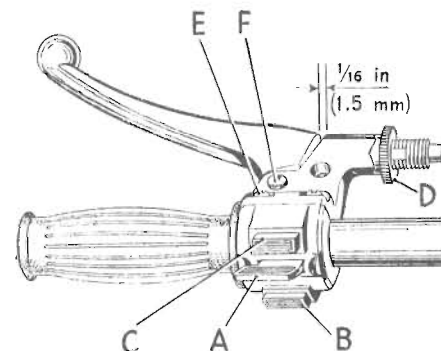
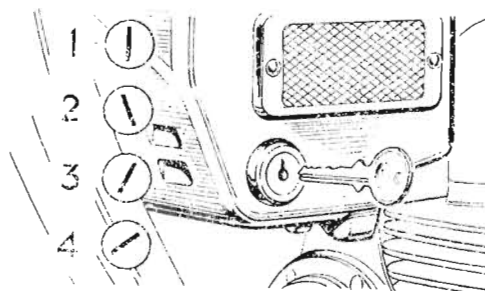

FIGURE 3.
FIGURE 4.
**CLUTCH:**—The lever is mounted on the left handlebar and its position can be adjusted after slackening off the screws (E) FIG. 3. The looseness of the lever is adjusted by rotation of screw (F) FIG. 3, after slackening its locknut. Grip the lever to free the clutch (i.e., disengage the drive between the motor and the rear wheel). Finger adjustment for the clutch cable is provided at the adaptor (D) FIG. 3, on the lever. A greasing point is provided in the cable at (B) FIG. 23. Provision is made on the lever body for fitting a Motoplas rear view mirror.
**MASTER ELECTRICAL SWITCH (except Moto-cross models):**—This is incorporated in the electrical box beneath the tank, on the left side of the machine (FIG. 4). The key is detachable in two of the four positions, but cannot be withdrawn from the remaining two, viz:
- (1) **OFF.** All equipment is switched off and the key can be removed. When leaving the machine return the key to this position and remove. Keep in a safe place.
- (2) **PILOT.** The pilot bulb in the headlamp is illuminated (and remains so, even when the main lighting is in use) together with the rear light. The key can be removed.
- (3) **IGNITION.** With the key turned to this position the motor can be started and run. The key is retained.
- (4) **IGNITION AND LIGHTS.** All electrical equipment is available for use with the switch in this position, and the key is retained.
**HORN, HEADLIGHT DIP SWITCH, HEADLIGHT FLASHER SWITCH:—**These are combined in a triple switch unit on the left handlebar as part of the clutch lever body. The unit (and the control lever) can be adjusted for position after slackening the screws (E). The horn push button is at (B), and the headlight flasher switch at (C) FIG. 3.
**HEADLIGHT SWITCH:—**The headlight main beam is illuminated when the rotary switch on the lamp body is turned. A separate switch (A) FIG. 3, on the left handlebar controls the dipping of the beam and the master electrical switch (FIG. 4) controls the pilot light.
**DIRECTION INDICATOR SWITCH, IGNITION CUT-OUT:—**These are combined in a triple switch unit mounted on the right handlebar as part of the front brake lever body. The unit (and the control lever) can be adjusted for position after slackening the screws (B). The direction indicator switch is at (G) and the ignition cut-out at (F). The third switch is unused.
Switch on the ignition by turning the key in a clockwise direction to position "3" as shown in FIG. 4.
Select the neutral gear position and close the throttle, so reducing the motor speed to "tick-over", and turn the master electrical key to the position shown as "1", FIG. 4.